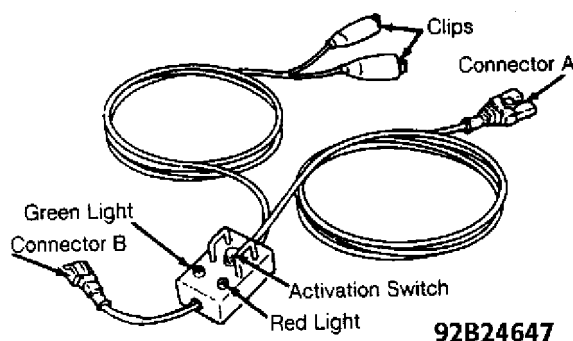

Fig. 13: Identifying Deployment Tool Components
3) Disconnect both ends of clockspring connector harness. Check continuity of clockspring harness between terminals "B" (air bag module side) and "B" (harness side). See Fig. 13.
5) Check continuity of clockspring harness between terminals "C" (air bag module side) and "C" (harness side). See Fig. 13. If continuity is not present, replace clockspring. If continuity is present, go to next step.